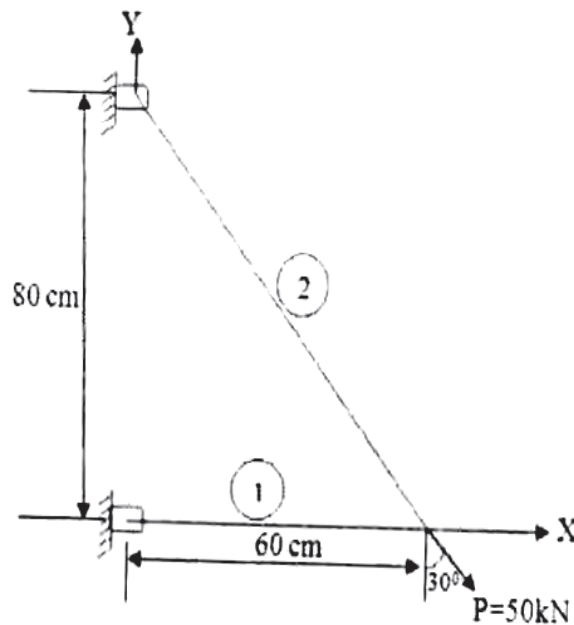

Figure 2
- b) Calculate nodal displacement and element stresses for the truss shown in Figure 2. Given: Elastic Modulus  $E = 70\text{GPa}$ . Cross sectional area  $A = 2\text{cm}^2$  for all truss members. [10]